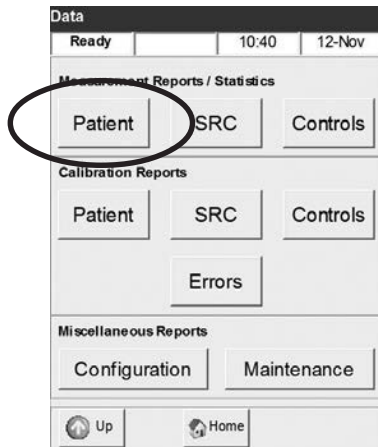

Fig. 5-24 Select Patient Report
2. Press **<Patient>** (Fig. 5-24).